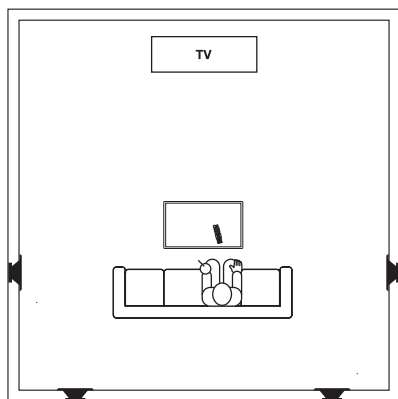

Figure 4. Two pairs of HDFX loudspeakers reproduce Dolby EX surround sound in a home theater room.
- *If your home theater system is capable of reproducing Dolby EX surround sound, consider using a second pair of HFX loudspeakers (on the side walls) for an additional rear surround effect, as shown in **Figure 4** (on the next page). Ideally, the side loudspeakers should be placed in-line with the listening position with the BIPOLE/DIPOLE controls set to DIPOLE. For a more focused surround effect, set the BIPOLE/DIPOLE controls to BIPOLE.*